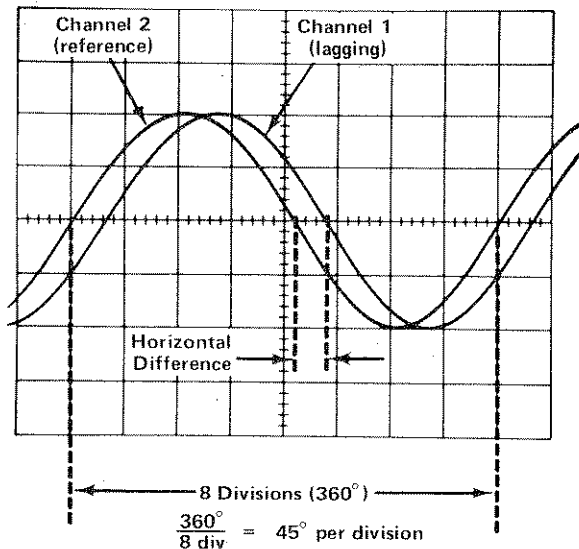

Fig. 4. Measuring phase difference.
Since a complete cycle of a sinusoidal waveform represents 360° , the oscilloscope graticule can be calibrated in degrees/division by using the SEC/DIV switch and the HORIZ MAG. Adjust the span of a reference waveform so that one cycle covers a given number of divisions. (Figure 4
d. Turn the HORIZ MAG control until one cycle of the reference signal (CH 2) occupies exactly 8 divisions horizontally. (See Fig. 4.) Each division now represents 45° of the displayed 360° (eight divisions).